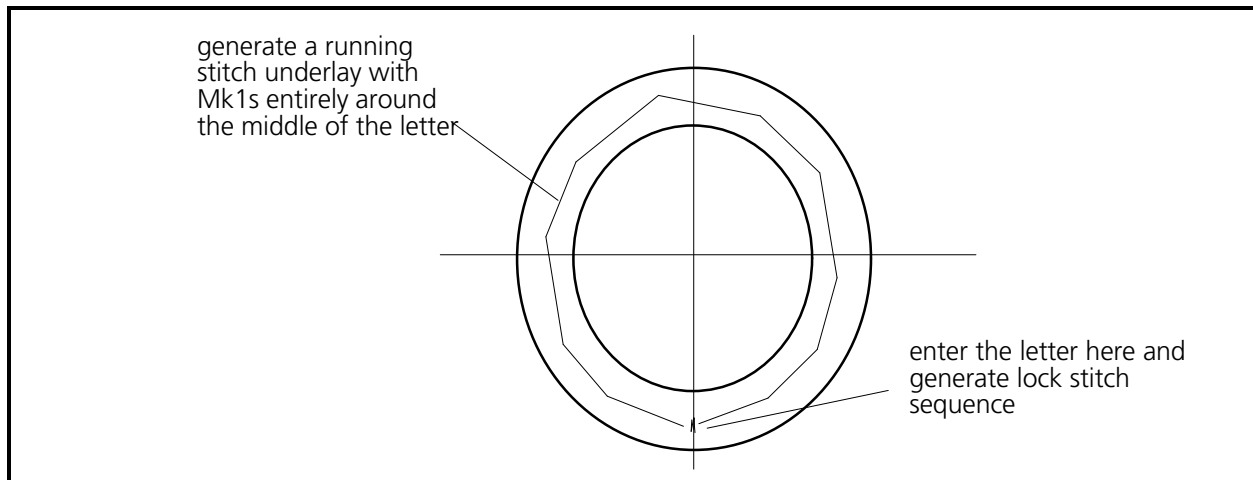

Figure 3-28
1. Perform the needle up, Mk1, normal stitch, Mk1 sequence to move to the bottom middle area of the letter **o** (see Figure 3-28).
2. Generate lock stitches in the letter **o** in a vertical direction as shown in Figure 3-28.
3. Using all Mk1s, generate a simple running stitch underlay through the middle and completely around the letter (see Figure 3-28). Finish with a Mk1 near where you put the lock stitch.